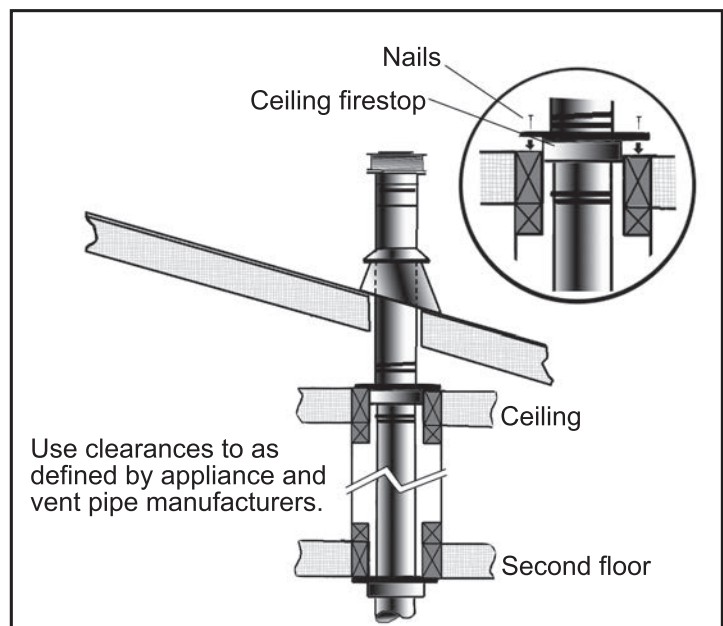

**Figure 59: Use of Wall Straps.**
- (1) If an offset is necessary in the attic to avoid obstructions, it is important to support the vent pipe every **3' (914 mm)**, to avoid excessive stress on the elbows, and possible separation. Wall straps are available for this purpose (see Figure 59).
- (2) When ever possible, use 45° degree elbows instead of 90° degree elbows. The 45° degree elbow offers less restriction to the flow of flue gases and intake air.